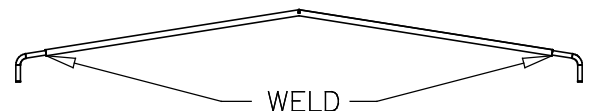

Figure 3
**Procedure:** Three, four or five hoops (J) are provided according to the length of the trailer. Equally space the hoop holders (G) along the length of the trailer and locate the top edge of the hoop holder 1 inch down from the top edge of the inside trailer wall. Once in place mark the position of the hoop holder and drill two 3/16" holes into the trailer wall. Secure the hoop holder using the 1/4"x1" lag screws provided. Follow this procedure to the remaining hoop holders making sure that they are at the same level, equally spaced, and directly across from each other. Insert bent angle (I) with one end fitted into the hoop holder (G) and the other end in the hoop (J), then repeat for the opposite side of the trailer. Measure the vertical distance from the inside of the trailer floor to the top center of the front or rear hood. Record the measured distance. Center the hoop on the bent angles (I) and measure the vertical distance from the inside trailer floor to the top center of the hoop. The measurement to the top of the hoop should be 3/4 inch greater than the distance from the trailer floor to the top of either hood. If the distance is less than or greater than the required 3/4 inch, adjust the hoop and bent angles accordingly. Weld the hoop to the bent angles making sure that the hoop is parallel with the bent angles (see Figure 3).